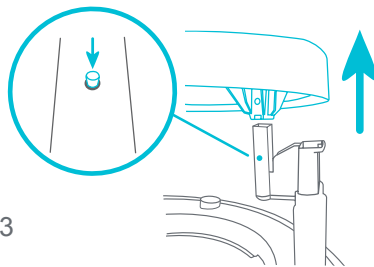

Fig. 13c
- **TABLETOP:** To remove, push the 3 pins located on each table leg (Fig. 13c). Repeat the process for the other table legs.